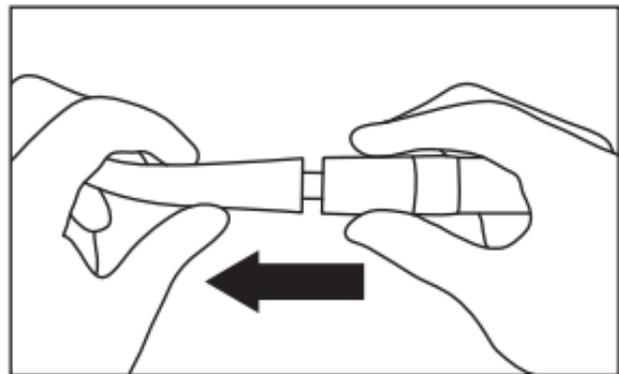

Fig. 15 21
- 6) Remove the handpiece from the motor. (Fig. 15)